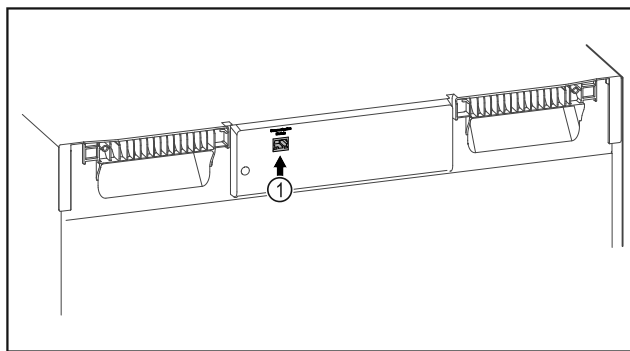

Fig. 150
- SmartModule Fig. 150 (1) is in use.